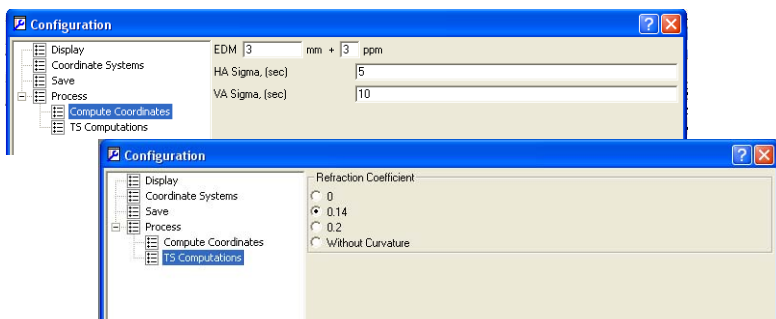

Figure 3-12. Set Processing Properties
5. In the Process Compute Coordinates pane (Figure 3-12), type in distance and angle measurement errors to take them into account when computing the coordinates of station using directions observed from the station to points of known positions (resection method). Click Ok to save and exit.
6. In the Process TS Computations pane, select the refraction coefficient to be applied to total station observations during calculation of the coordinate (Figure 3-12). Click Ok to save and exit.